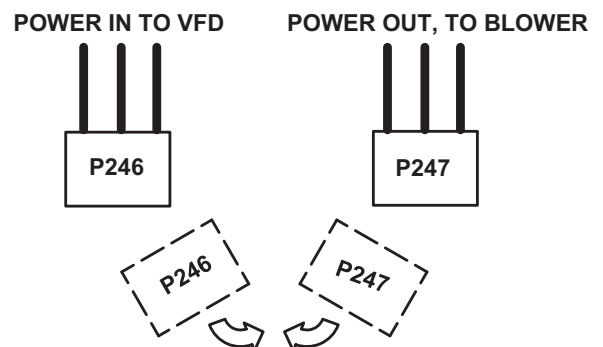

FIGURE 50
- 4 - Connect P246 to P247. See FIGURE 50.